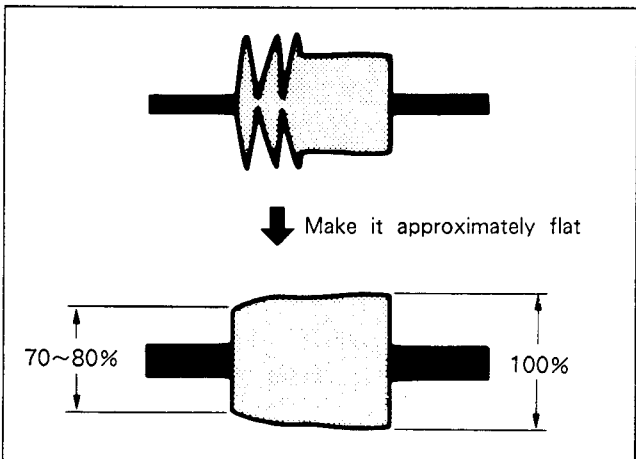

Fig. 7-74.
- 3) Slowly rotate the No.2 guide clockwise to make the entrance side waveform approximately flat. (Fig. 7-74.)